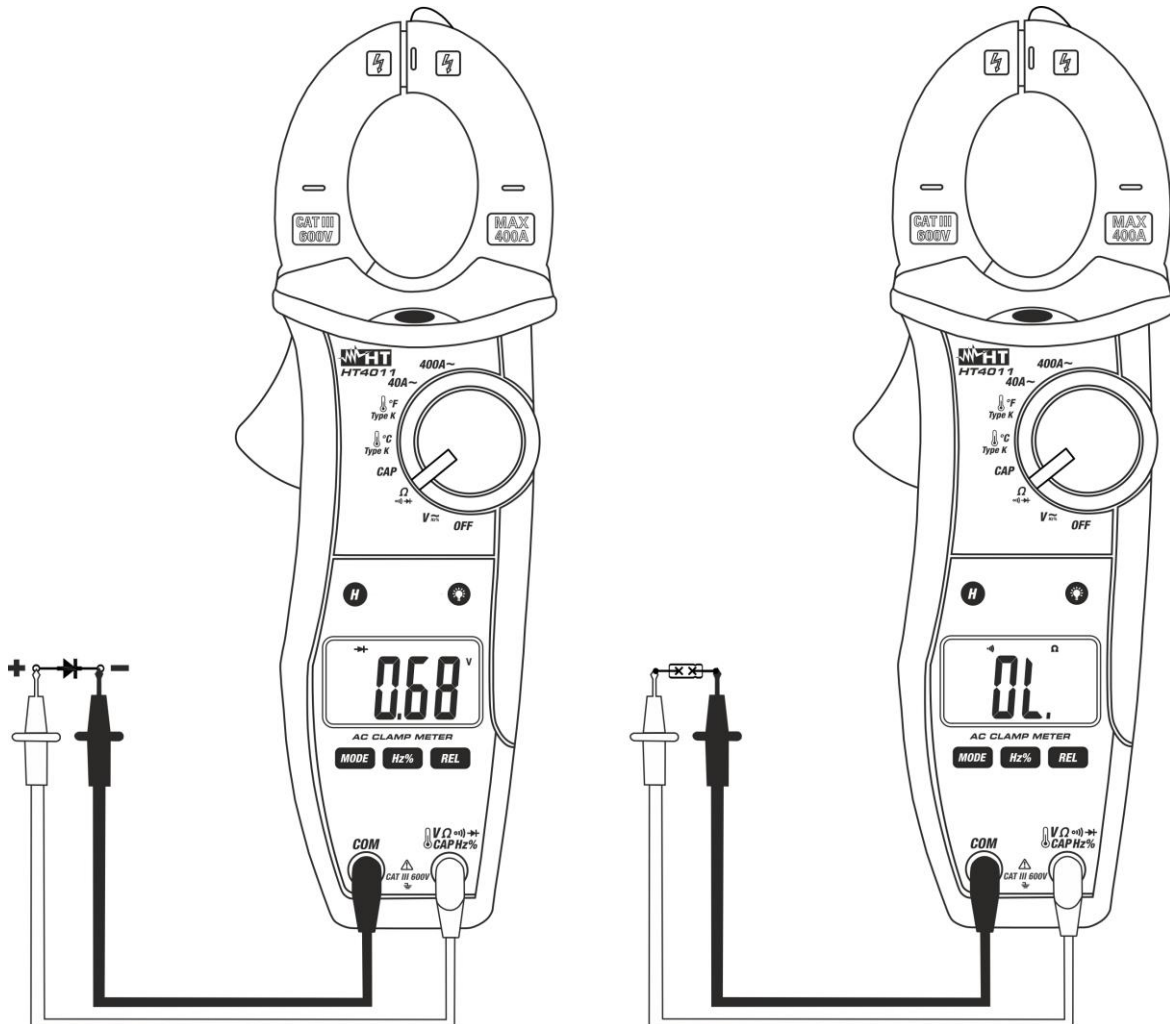

Fig. 7: Use of the clamp for continuity test and diode test
3. Insert the red cable into input terminal $V\Omega \rightarrow$ and the black cable into input terminal **COM** and carry out the continuity test of the object to be measured (see Fig. 7– right side). A buzzer sounds when the measured value of resistance is lower than 150Ω
5. Connect the red lead to the anode of the diode and the black lead to the cathode in case direct polarization measurement is carried out (see Fig. 7 – left side). Invert the position of the leads in case reverse polarization measurement is carried out.